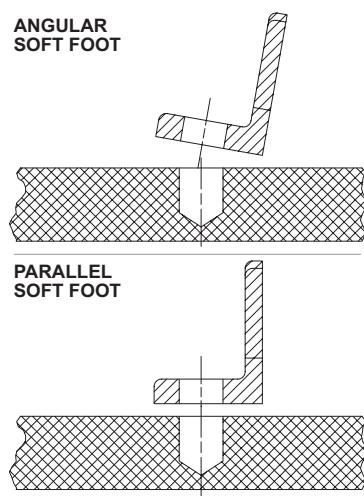

Figure 5-2 – Illustrations of Soft Foot
2. Check each foot for gaps between the foot and base (soft foot). Shim as necessary to fill the gap within 0.002 in. (0.05 mm). **Figure 5-2** shows the two most common types of soft foot conditions. If either type is present at a measurement of more than 0.003 in. (0.076 mm), the blower may fail prematurely.